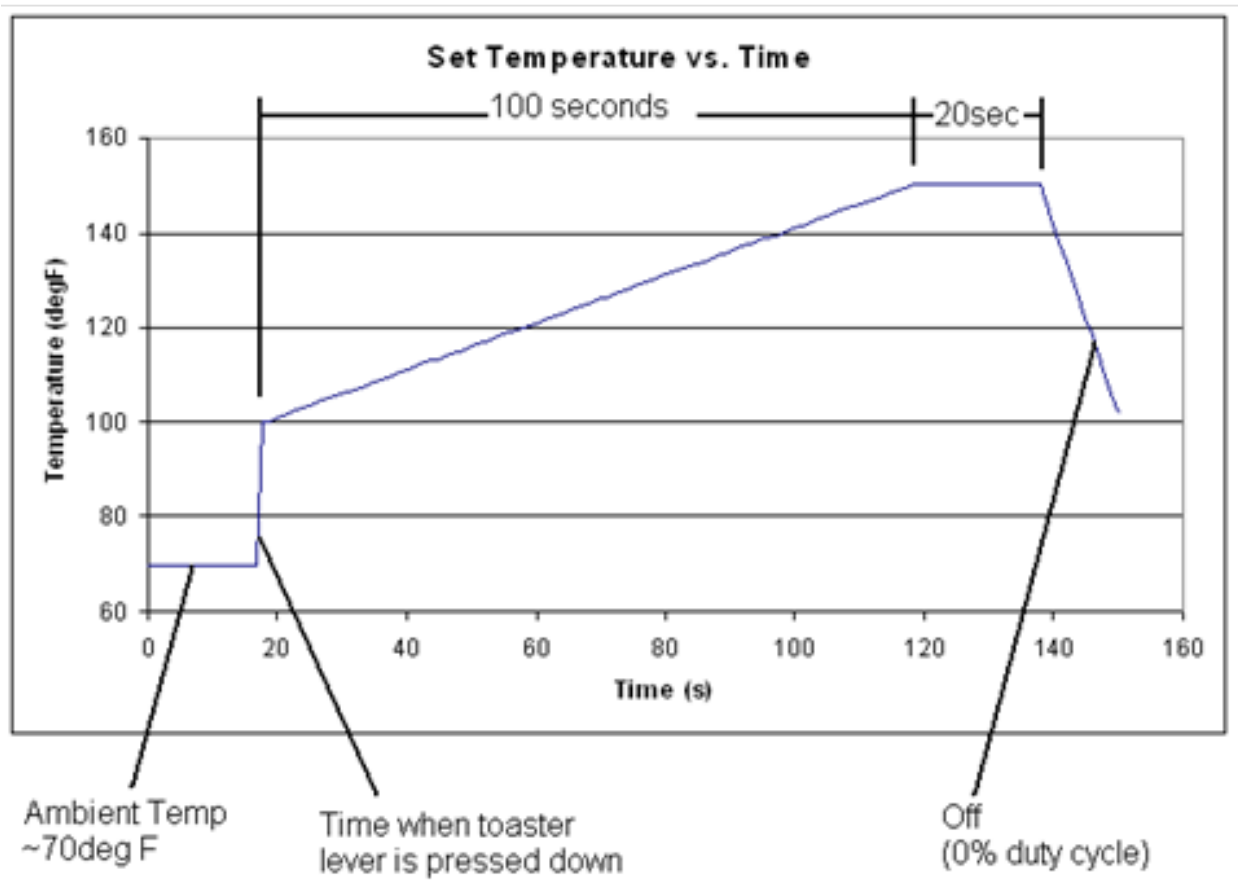

Figure 1: Cooking temperature profile
3. The cooking temperature should follow the temperature profile shown below in Figure 1. When the bread is dropped into the toaster and the lever is pushed down the set temperature immediately becomes 100°F and over 100 seconds the set temperature should raise to 150° and then be maintained for 20 seconds before shutting off.